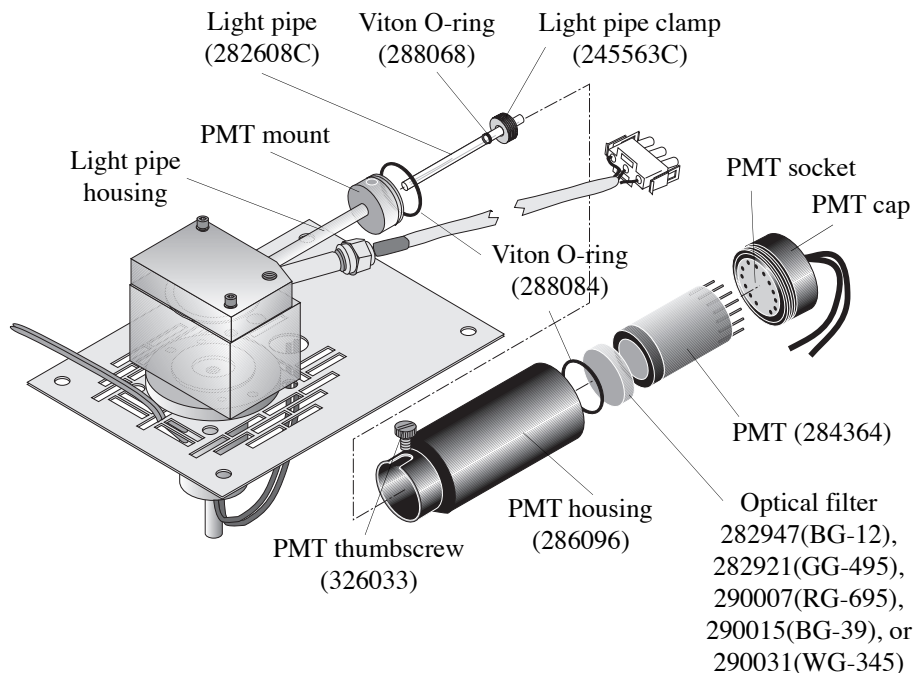

Figure 6.3. Photomultiplier tube (PMT) assembly
The three main components of the PFPD's photomultiplier assembly that can be replaced are the PMT, the optical filter, and the light pipe (Figure 6.3).
3. Detach the PMT housing assembly (PN 286096) from the PMT mounting by loosening the PMT thumbscrew (PN 326033) and gently pulling off the housing. Wiggle the housing back and forth if necessary to remove it. Open the PMT housing assembly by unscrewing the PMT housing counterclockwise from the cap (Figure 6.3).
If changing the PFPD's operational mode, the optical filter may have replacing in the PMT housing assembly (Figure 6.3). Chapter 11, "Photomultiplier Tube and Filter Configurations for Various Element Detection" on page 129 provides a list of suitable filters for different modes. Use the following procedure if the optical filter(s) needs replacing:
3. Detach the PMT housing assembly (PN 286096) from the PMT mounting by loosening the PMT thumbscrew (PN 326033) and gently pull off the housing. Wiggle the housing back and forth, if necessary, to remove it. Open the PMT housing assembly by unscrewing the PMT housing counterclockwise from the cap (Figure 6.3).
3. Detach the PMT housing assembly (PN 286096) from the PMT mounting by loosening the PMT thumbscrew (PN 326033) (Figure 6.3). Place it where it cannot accidentally drop or roll.